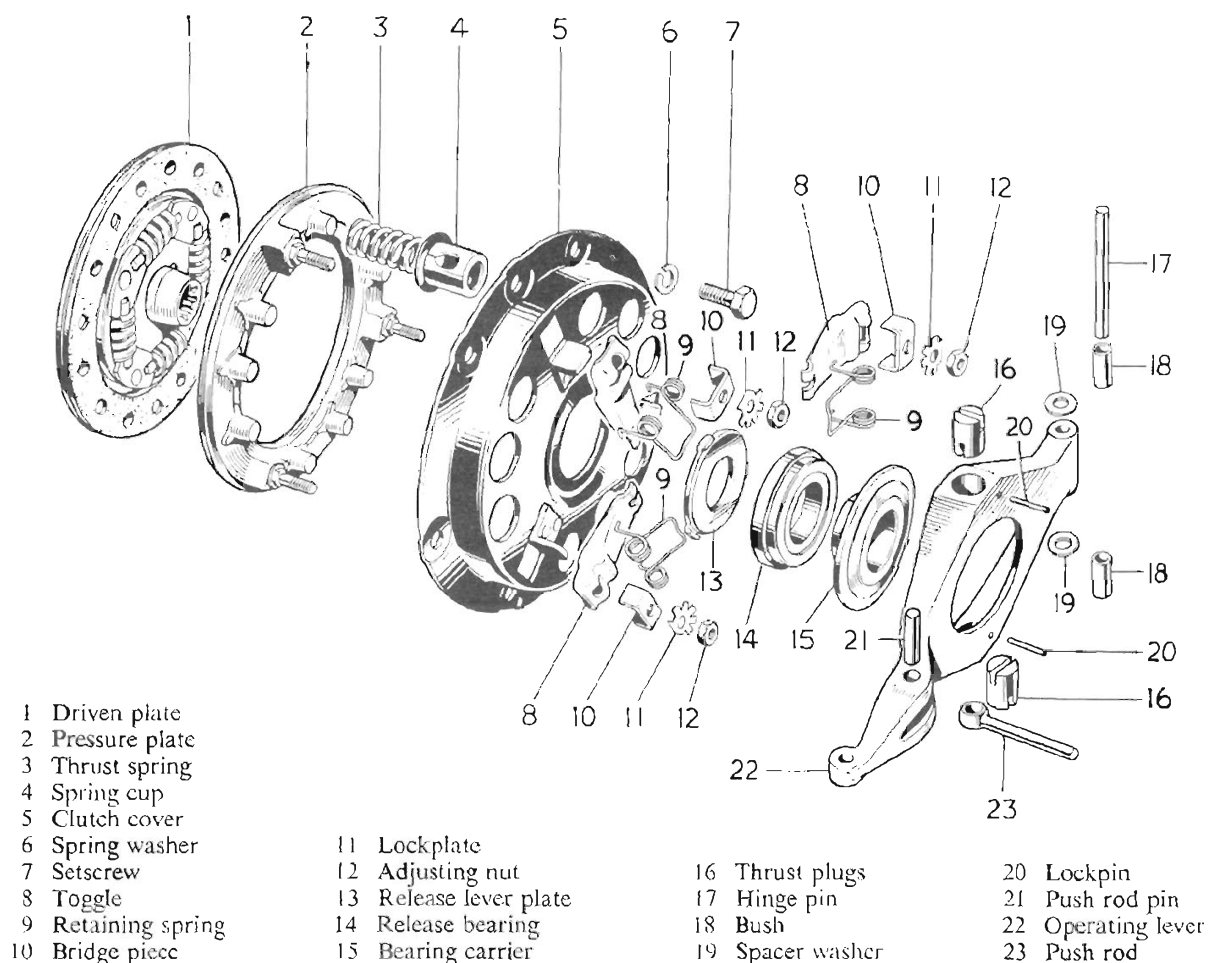

Fig. 13. Exploded clutch unit (Herald 1200, 12/50 and Spitfire)
1. Position the spacers (6) on the baseplate and place the clutch unit over the spacers, with the release levers as near as possible over the spacers.
2. Mark the pressure plate, cover and toggles to facilitate re-assembling them to their original positions. Fit the operating handle (8) to the baseplate, and clamp the clutch unit by levering the handle. Secure the unit to the baseplate with six setscrews (7). Remove the operating handle.
3. Referring to Fig. 13, hold the release lever plate (13) down and detach the retaining springs (9). Remove the release lever plate.
## (a) HERALD 1200, 12/50 AND SPITFIRE (Fig. 13)